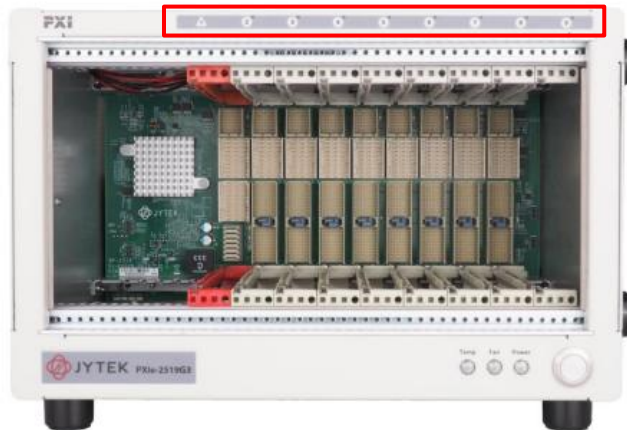

Figure 54 Slot number on PXIe Chassis
- Slot Number is the number marked on the top of the PXIe chassis. As shown in Figure 54. Here we set Slot 0 as the Master device, Slot 1 as the Slave device.